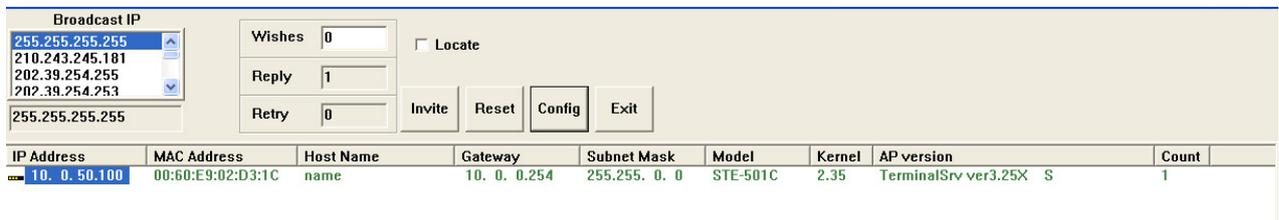
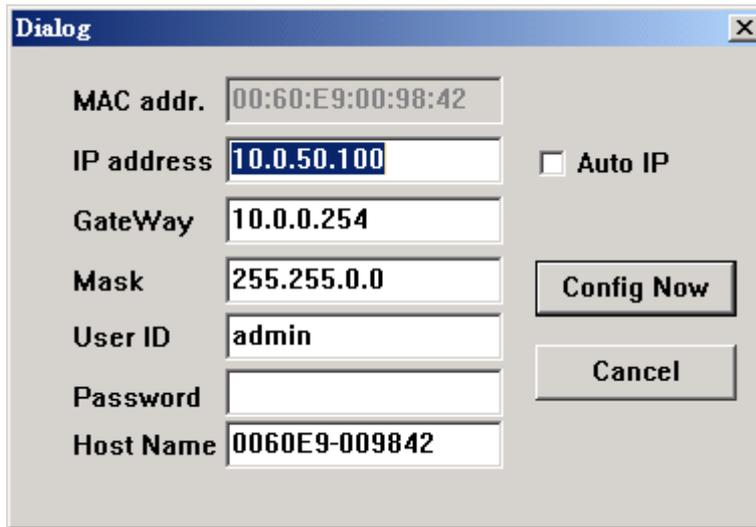

Figure 3.1 Configure by monitor.exe utility
Figure 3.2 Static IP setup dialog window
Use **monitor.exe** that comes with product CD to configure the network parameters of STE-501C. Please click "**Config**" button(ref Figure 3.1) then give it a static IP information.(Figure 3.2)
- >Execute Monitor.exe(Figure 3.1)